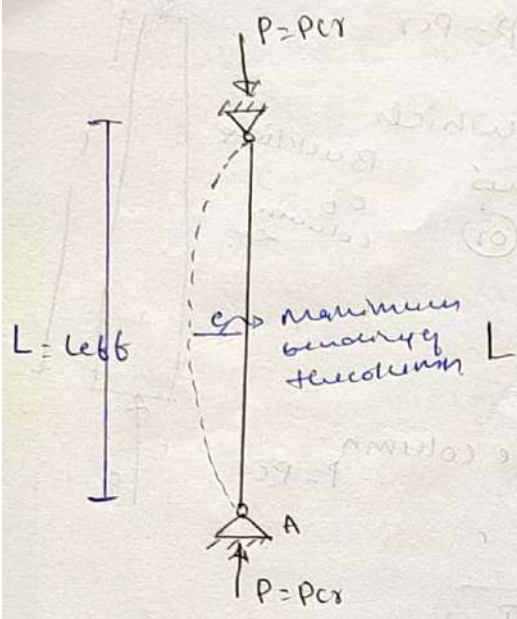

fig: 1
② Long columns: which fails by buckling excessive lateral bending. Fig 1
③ Intermediate columns: which fails by combination of crushing and buckling.